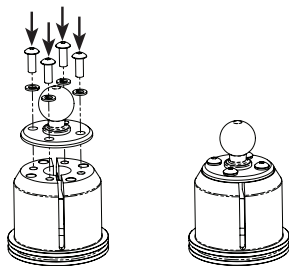

Figure 3
9. Use the $5/64$ " Hex Key to fasten the *Base Plate* to the *Steering Stem Nut* with the *Base Plate Screws* and *Base Plate Washers* as shown in Figure 3.